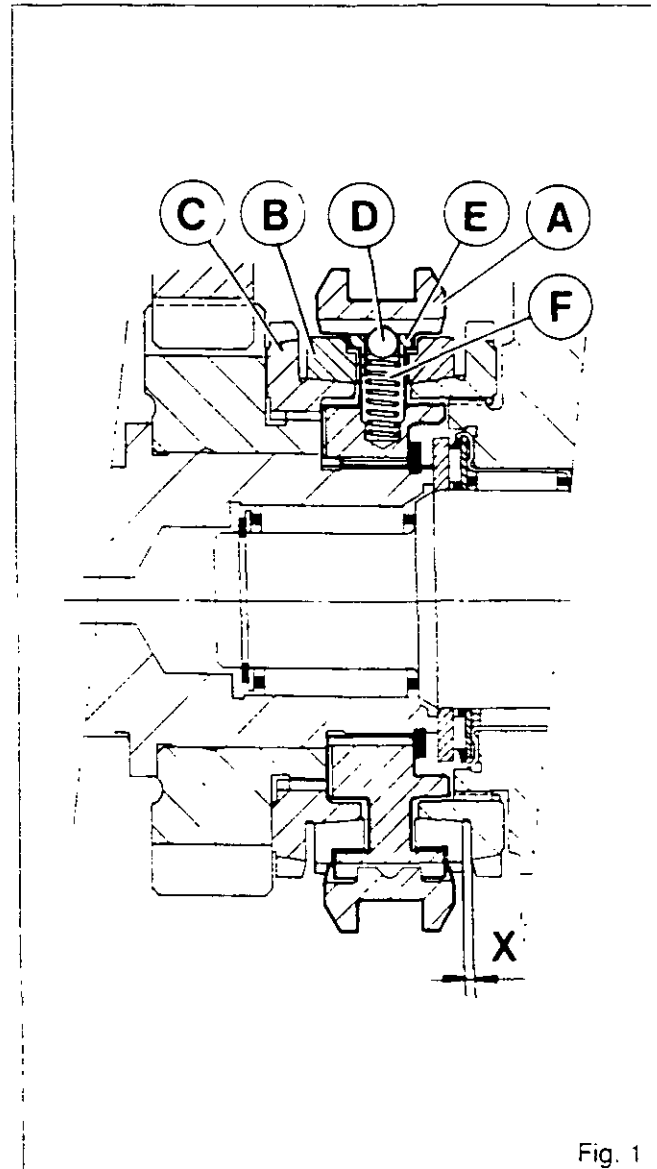

Fig. 1
### Synchromesh units (Fig. 1)
Place a sling under the gearbox (Fig. 1). Split the tractor between the gearbox and the engine (See 3 A01 Procedures 11 and 12). Remove the PTO shaft (1), Fig. 1).
Place a sling under the gearbox (Fig. 1). Separate the gearbox from the engine (See 3 A02 Procedures 3, 4, 13 and 14). Remove the PTO shaft (1), (Fig. 1).